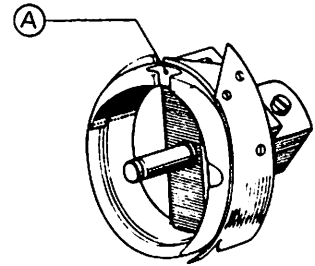

Fig. 30
(1) Use the undertrimmer hook which has the bobbin thread guide slit (A) as shown in Fig. 30.